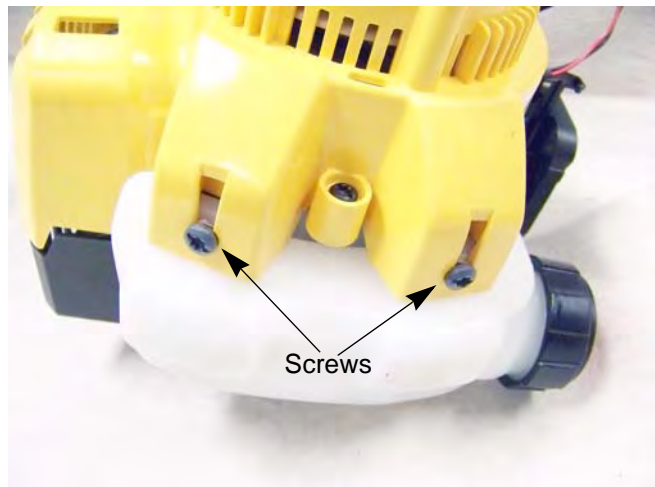

Figure 5.10
3. Remove the two screws that hold the fuel tank to the starter housing using a T-20 torx driver. See Figure 5.10.